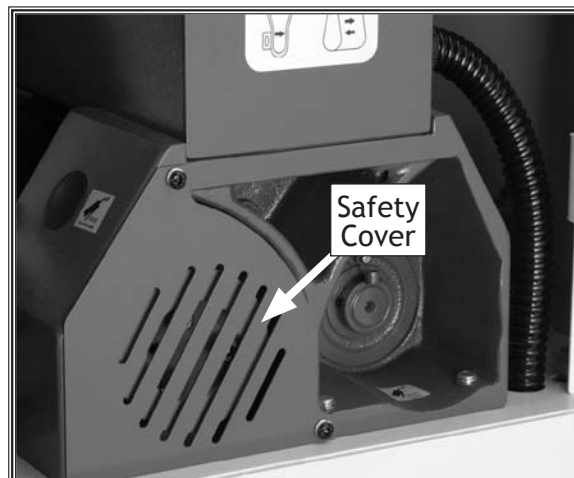

Figure 38. Safety cover and mounting screws.
3. Remove the screws and the safety cover for access to the upper pulley. See **Figures 38 and 39**.